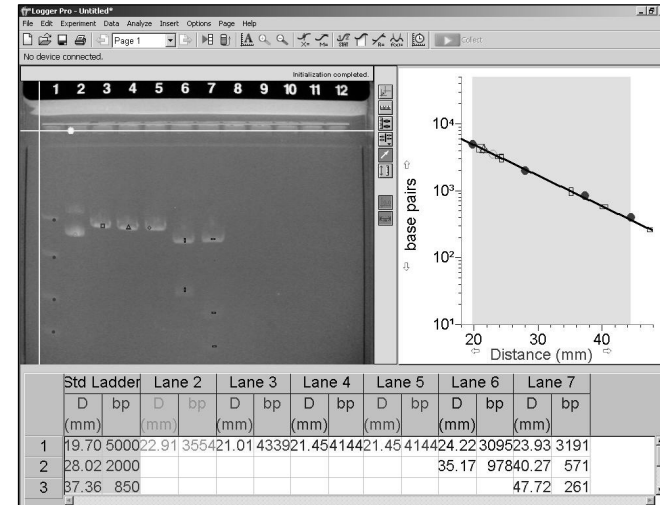

Figure 5: Completed Gel Analysis
8. To analyze another lane, click on the *Add Lane* button again, choose Add Lane, and repeat Step 7. Repeat this process for each experimental lane until the entire gel has been analyzed, as shown in Figure 5.